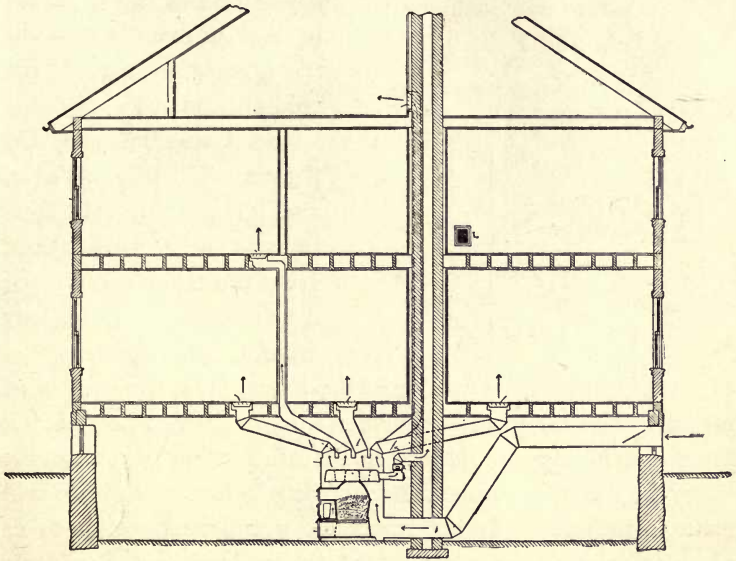

FIG. 38.—HOT AIR HEATING SYSTEM
83. Hot Air Heating System. In heating a house by hot air (Fig. 38), there is a large stove called a *fire box*, which is surrounded by a brick or galvanized iron *jacket* forming a